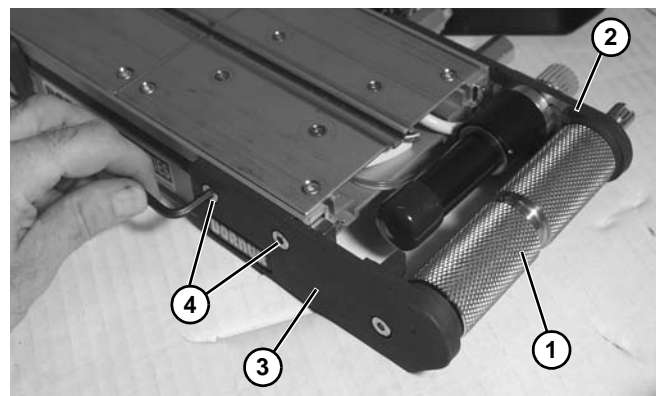

**Figure 61**
1. With opposite head plate installed, position the idler spindle (**Figure 61, item 1**) through the loop of the belt, into the opposite head plate.
2. Place the head plate (**Figure 61, item 2**) and attach the head plate to the conveyor frame with the two (2) screws removed and hand tighten.